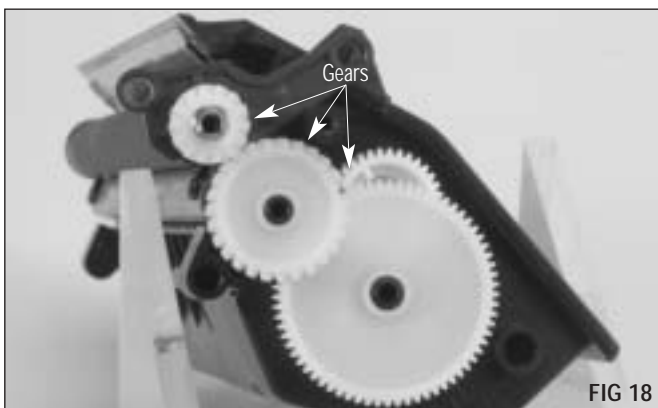

FIG 18
5. Replace the three gears from the left side of the hopper section (FIG 18).